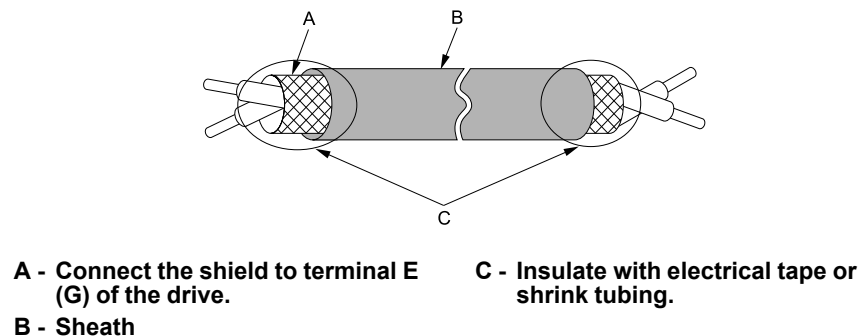

Figure 10.9 Prepare the Ends of Shielded Wire
- Refer to Figure 10.9 for information to prepare terminal ends of the shielded wire.
- Prepare the wire ends of shielded twisted-pair wires as shown in Figure 10.9 to use an analog reference from an external frequency setting potentiometer to set the frequency. Connect the shield to terminal E (G) of the drive.